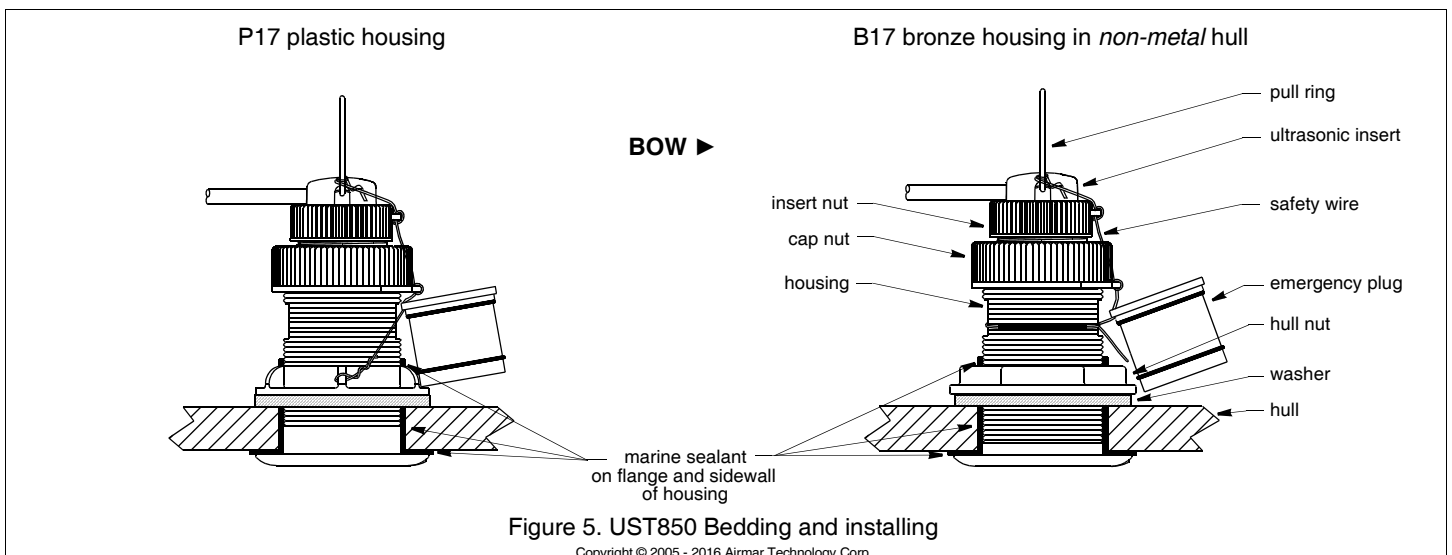

Figure 5. UST850 Bedding and installing
**UST850** (Figure 5)
2. Remove the ultrasonic insert from the housing by removing the safety wire from the pull ring and the *insert* nut (Figure 5).
5. Reattach the safety wire to prevent the blanking plug from backing out in the unlikely event that the insert/cap nut fails or is screwed on incorrectly (Figure 5).
1. Remove the *short emergency plug* from the safety wire (Figure 5).
5. Secure the *short emergency plug* with the *cap nut*. **Hand tighten** only. Do not over tighten. Reattach the safety wire (Figure 5).
10. Attach the safety wire to the *short emergency plug*, the *cap* nut, the *insert* nut, and the pull ring to prevent the ultrasonic insert/blanking plug from backing out in the unlikely event that the *insert* nut and/or *cap* nut fails or is screwed on incorrectly (Figure 5).